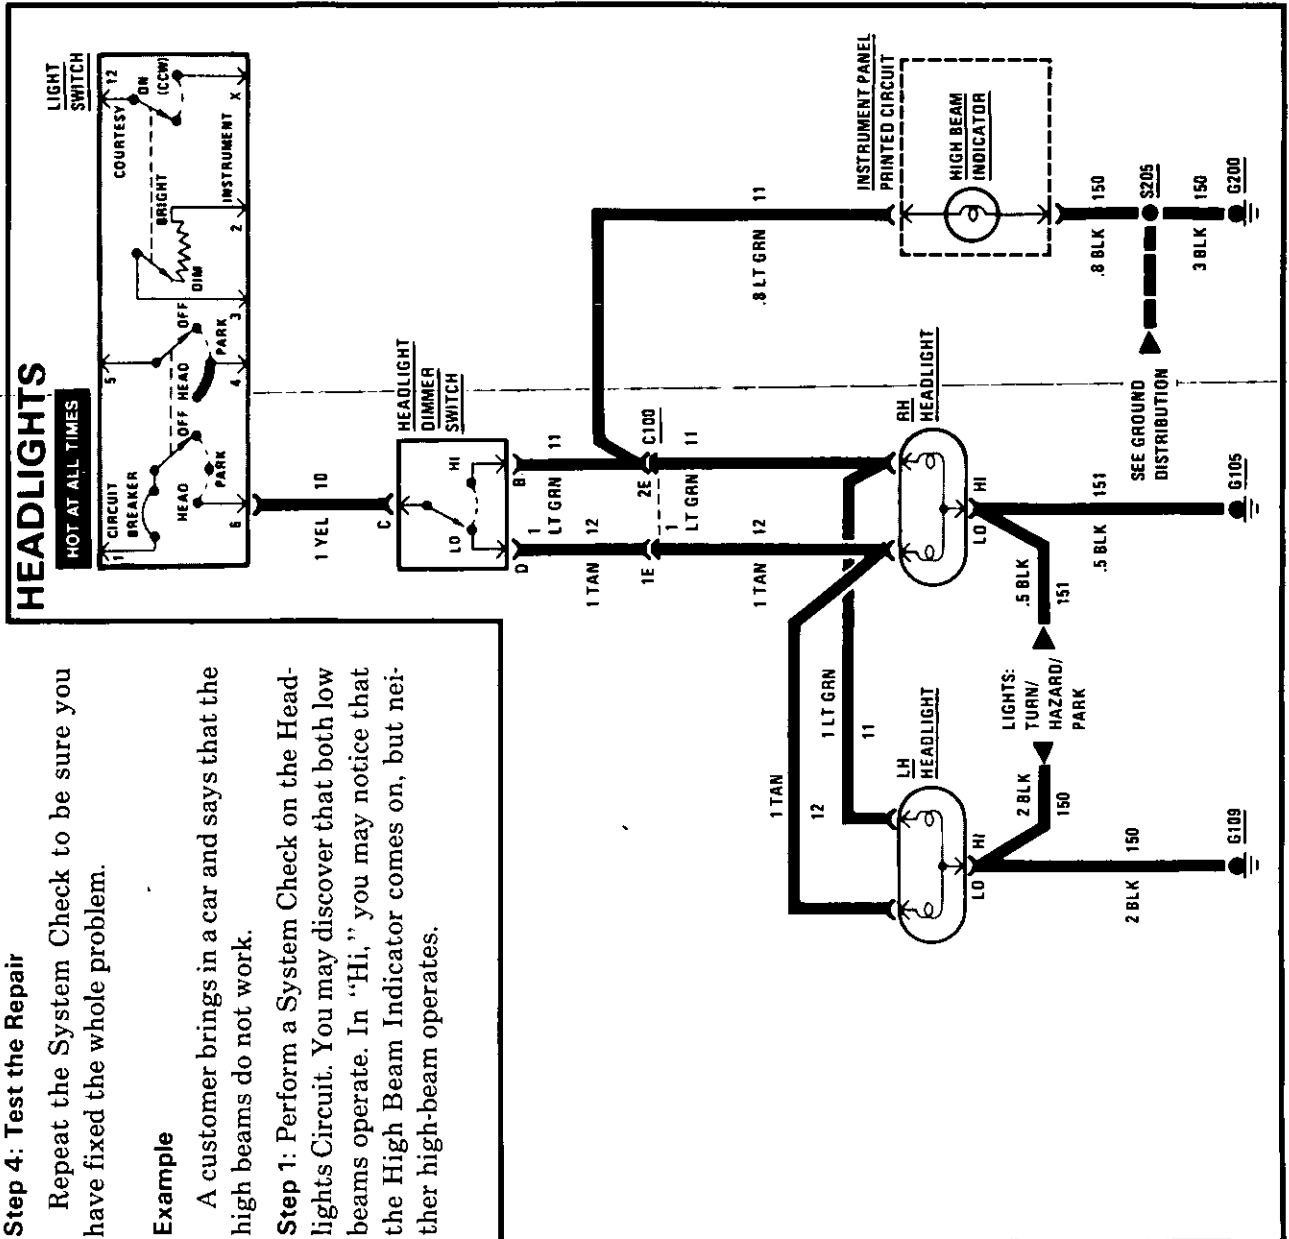

Figure 9 - Typical Headlights Schematic
Step 2: Read the Headlights electrical schematic, see figure 9. This is the step that will save you time and labor. Remember, it is essential to understand how a circuit *should* work, before trying to figure out why it doesn't.